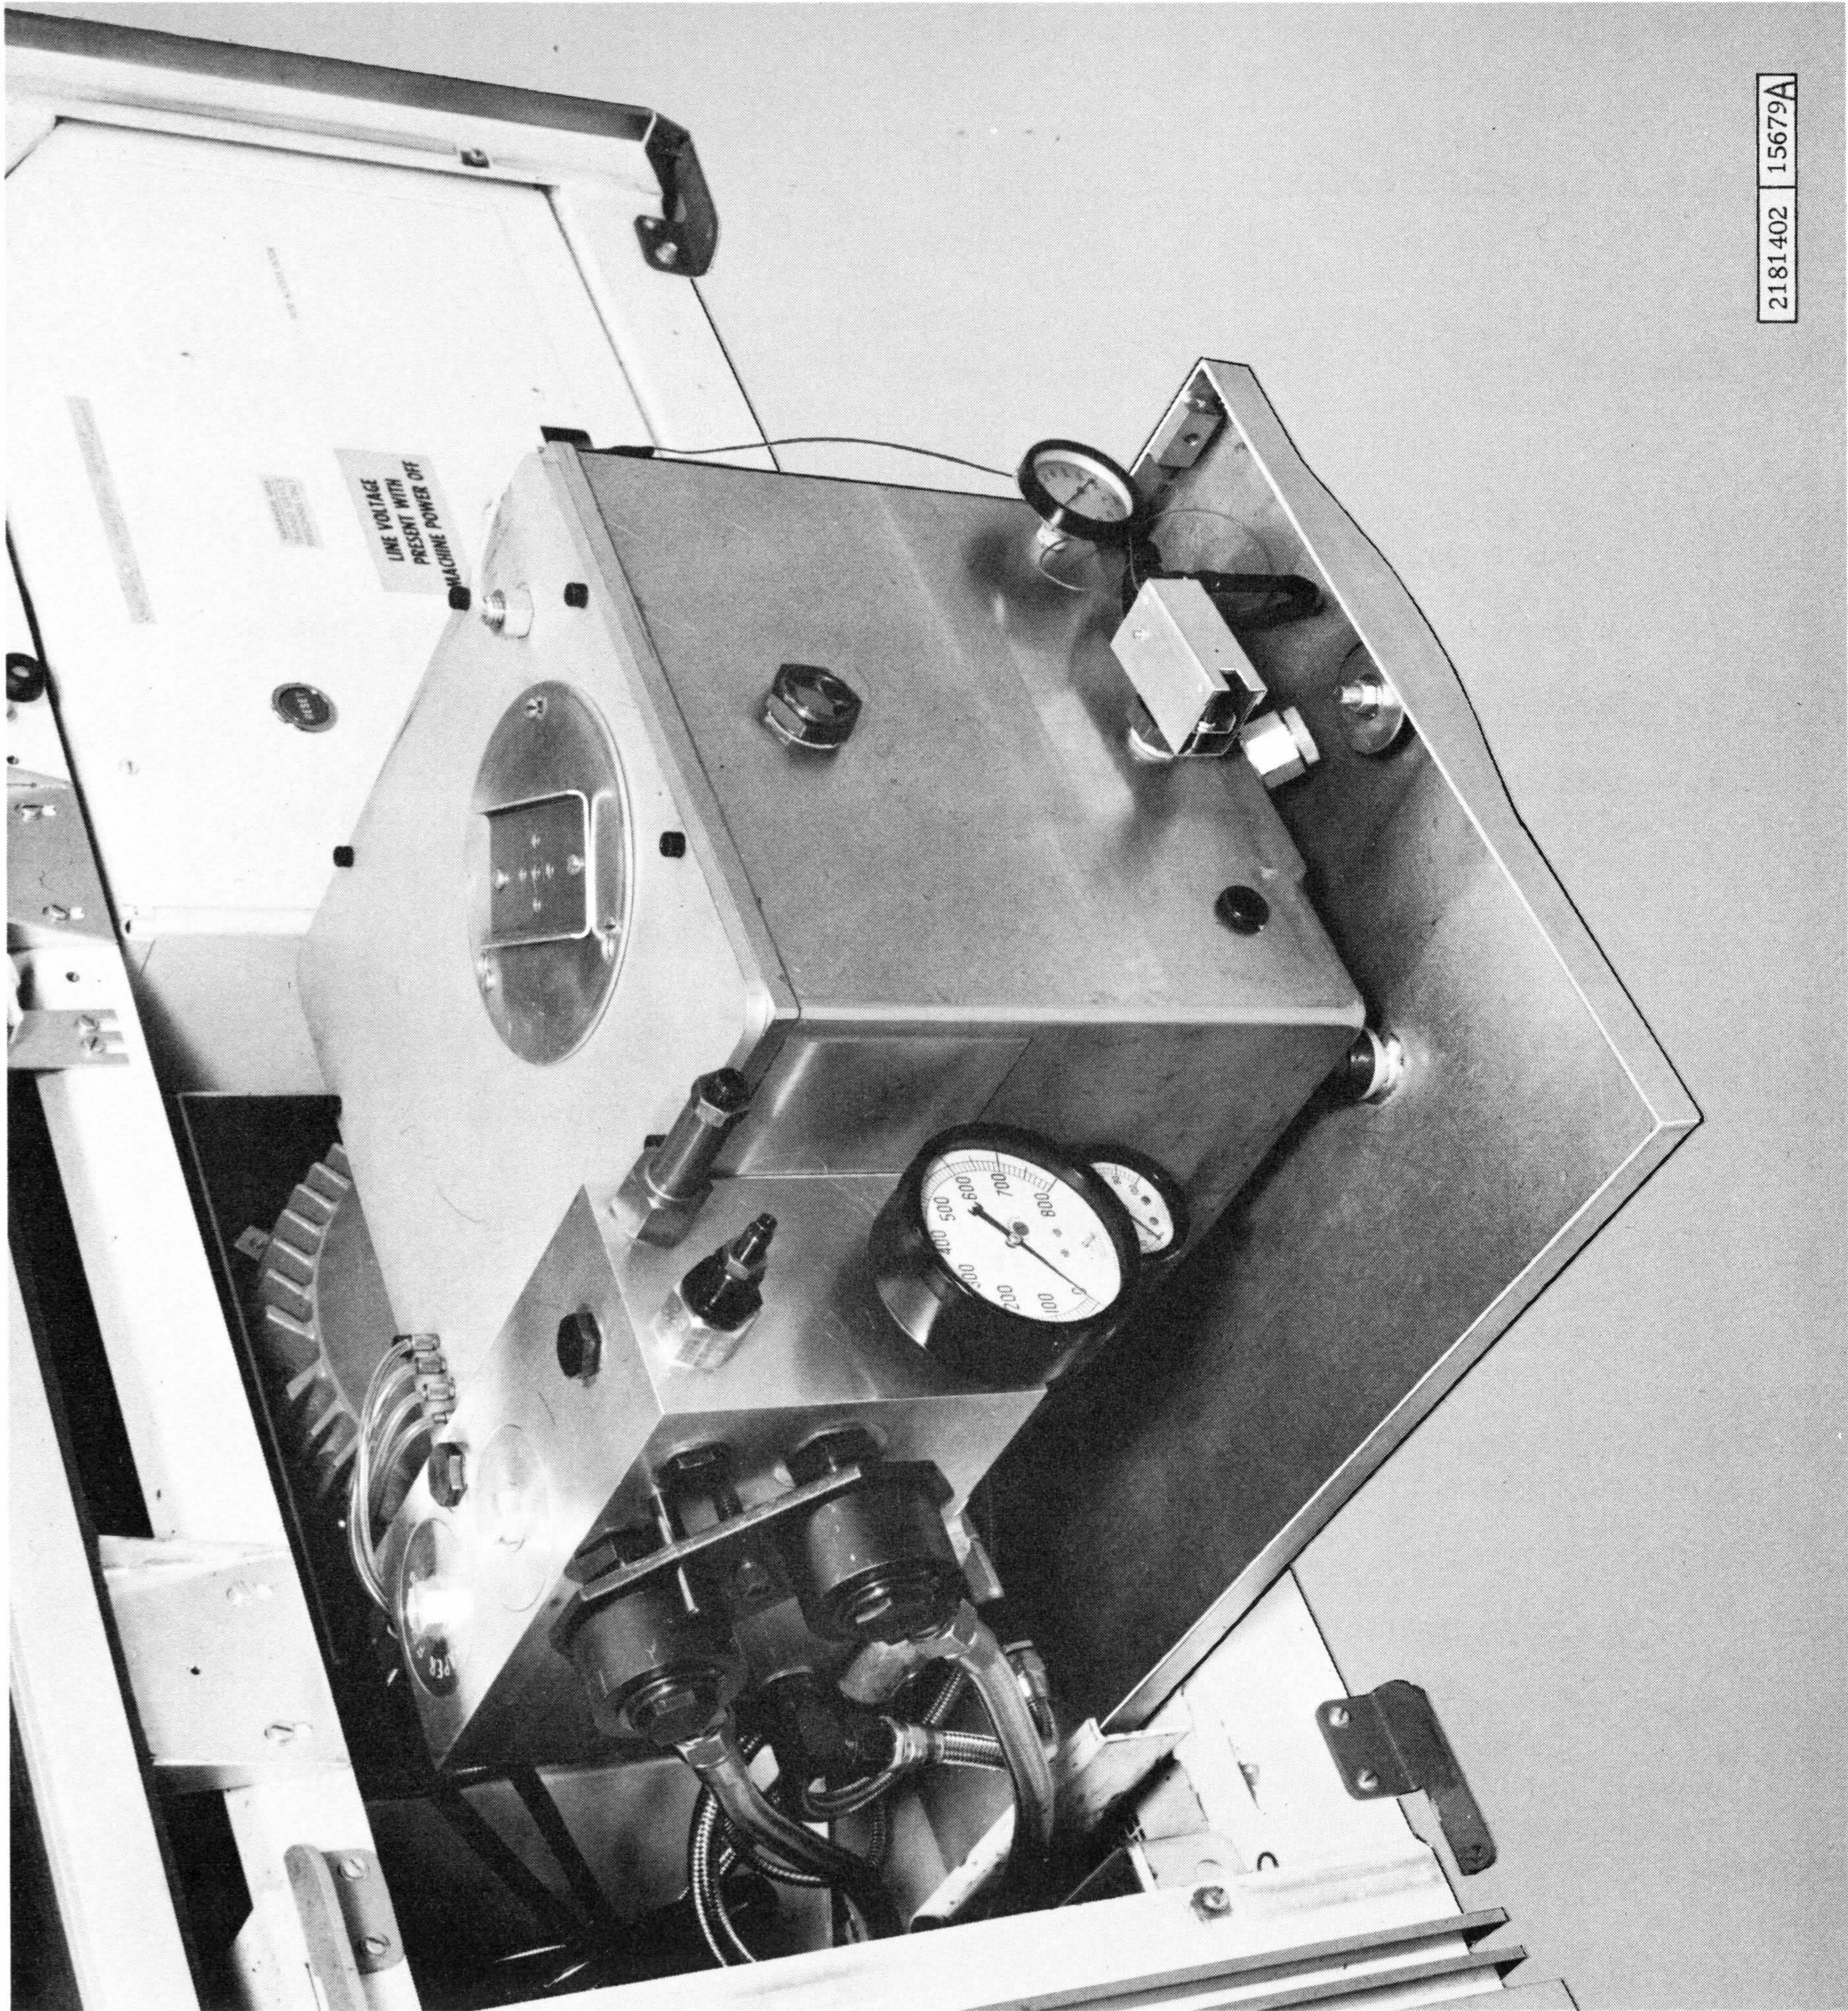

Figure 3-45 Hydraulic Power Supply in Servicing Position
3.5 HYDRAULIC POWER SUPPLY (FIGURE 3-45)
2. Slide unit out rear of machine to servicing position (Figure 3-45).